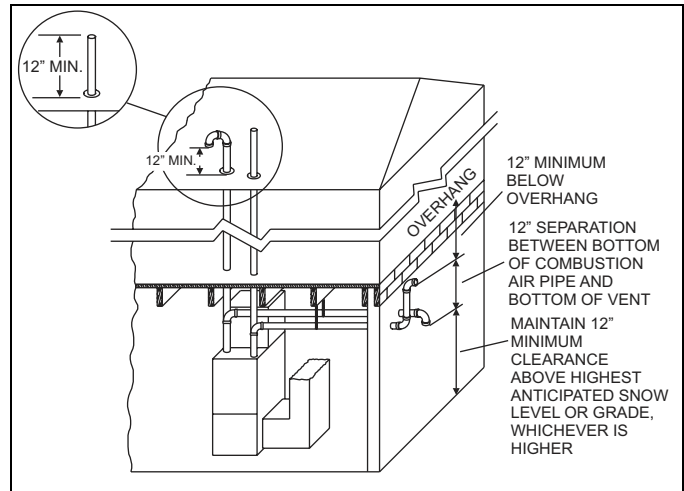
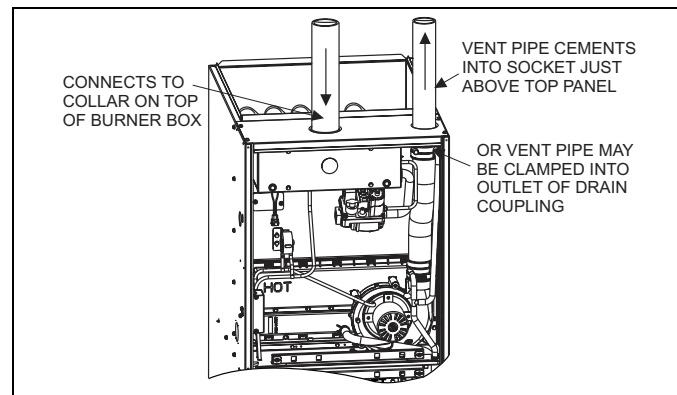
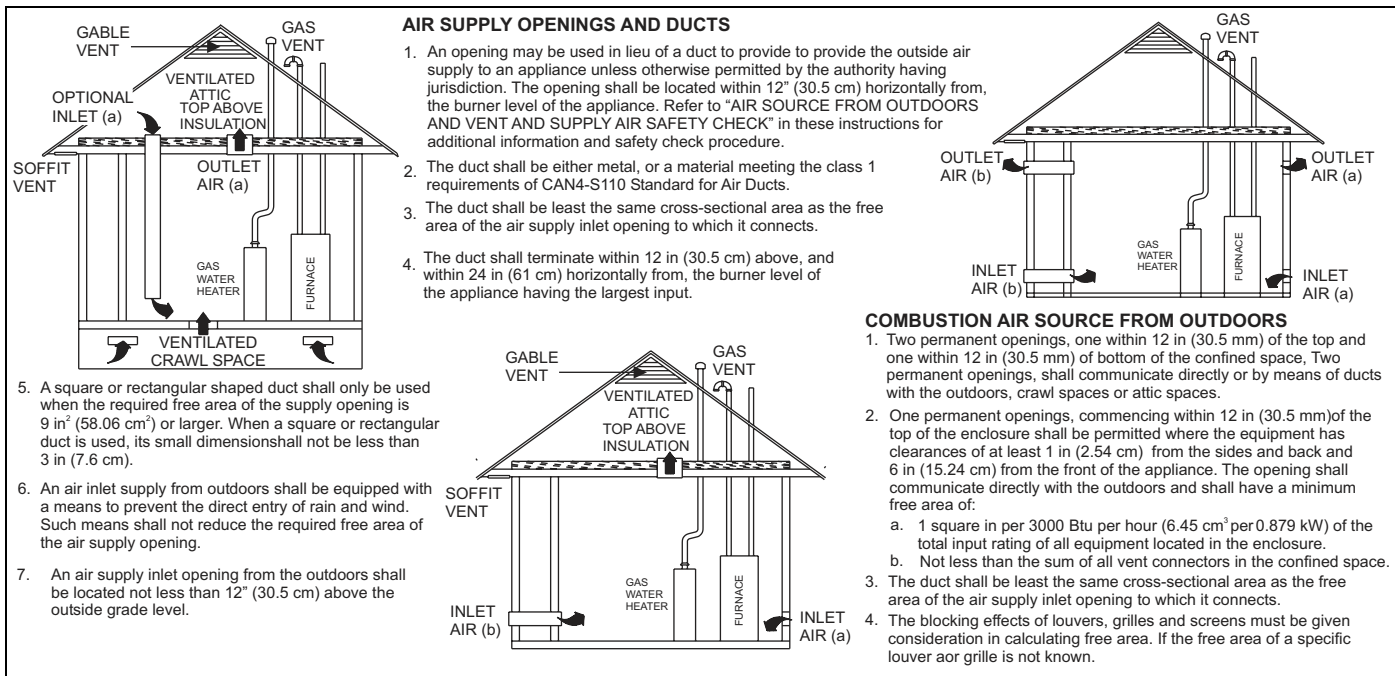
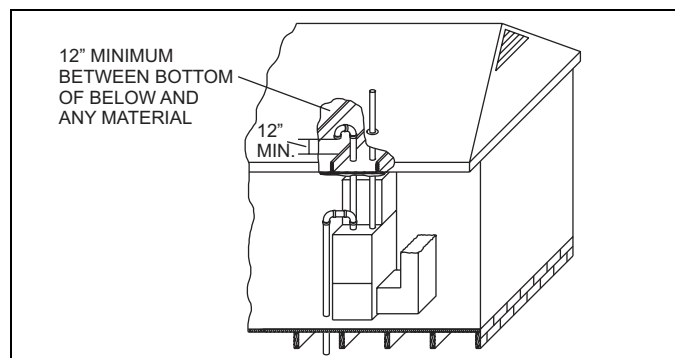

FIGURE 11: Termination Configuration - 2 Pipe Basement
FIGURE 14: Sealed Combustion Air Intake Connection and Vent Connection
FIGURE 16: Outside and Ambient Combustion Air
FIGURE 17: Attic and Crawl Space Combustion Air Termination
The combustion air side of the single pipe configuration shown in Figure 17 is referred to in these instructions as ambient combustion air supply. Follow the instructions for ambient combustion air installations, paying particular attention to the section on air source from inside the building. The vent for a single pipe system must be installed as specified in the venting section of these instructions with the vent terminating as shown in Figures 14 or 15. Each furnace must have a separate vent pipe. Under NO circumstances can the two vent pipe be tied together.
The combustion airside of the two-pipe configuration shown in Figure 16 can be installed so the combustion air pipe terminates as described in outdoor combustion air or ventilated combustion air sections in these instructions. Follow the instructions for outdoor combustion air or ventilated combustion air and the instructions for installing the vent system with the vent terminating as shown in Figures 14 or 15. The two-pipe system must have a separate combustion air pipe and a separate vent pipe for each furnace. Under NO circumstances can the two combustion air or vent pipes be tied together. The combustion air and vent pipes must terminate in the same atmospheric zone.
1. **OUTDOOR COMBUSTION AIR:** This is a sealed combustion air configuration where the combustion air is supplied through a PVC or ABS pipe that is connected to the PVC coupling attached to the burner box and is terminated in the same atmospheric zone as the vent. This type of installation is approved on all models. Refer to Figure 16.
2. **AMBIENT COMBUSTION AIR:** Combustion air is supplied from the area surrounding the furnace through vents or knockouts in the furnace casing. The combustion air and the vent pipes are not terminated in the same atmospheric zone. Refer to Figure 11 for vent terminations. Refer to "AIR SOURCE FROM INSIDE THE BUILDING" and "VENT AND SUPPLY AIR SAFETY CHECK" for proper installation. Refer to Figure 17.
This installation requires combustion air to be brought in from outdoors. This requires a properly sized pipe (Shown in Figure 16) that will bring air in from the outdoors to the furnace combustion air intake collar on the burner box. The second pipe (Shown in Figure 16) is the furnace vent pipe.
This type installation will draw the air required for combustion from within the space surrounding the appliance and from areas or rooms adjacent to the space surrounding the appliance. This may be from within the space in a non-confined location or it may be brought into the furnace area from outdoors through permanent openings or ducts. It is not piped directly into the burner box. A single, properly sized pipe from the furnace vent connector to the outdoors must be provided. For upflow models combustion air is brought into the furnace through the unit top panel opening. Do not install a pipe into the intake collar on top of the burner box. Refer to Figure 17.